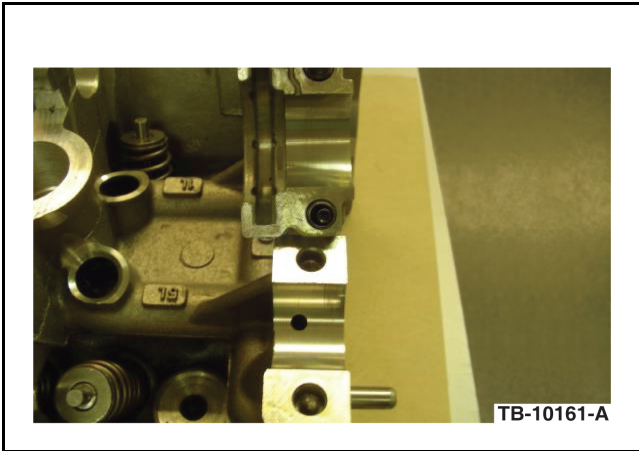

Figure 3 - Article 11-12-5
- b. If the camshaft thrust bearing cap(s) does not exhibit any abnormal wear, re-assemble cap(s) to cylinder head, torque to 10 N•m (7.5 lb-ft) and proceed to Step 5. (Figure 3)
- (1) Slight polishing is normal and is not reason to replace the cylinder head. (Figure 3)